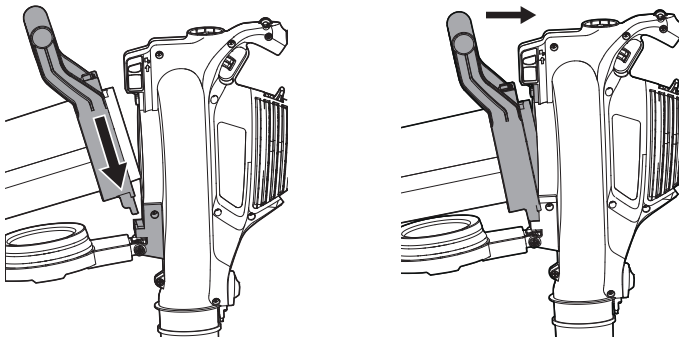

Fig. 4
- With assembled vacuum tube properly aligned, insert into aligned gate opening and lock vacuum tube into place. Make certain the vacuum tube aligning tab is firmly "seated" before locking the latch. (Fig. 4)